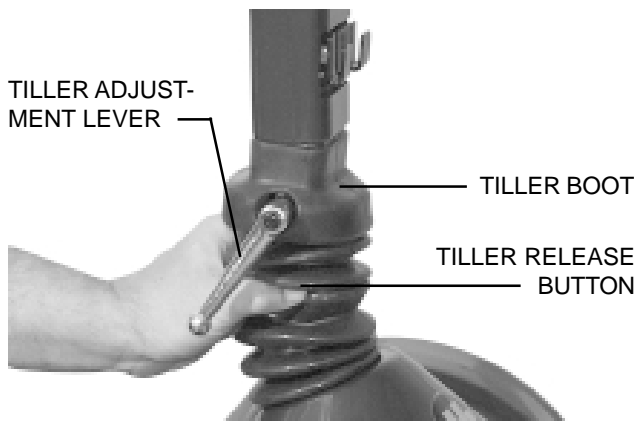

FIGURE 10. ADJUSTING THE TILLER ANGLE
1. Turn the tiller adjustment lever anticlockwise until it is loose. If the tiller adjustment lever comes in contact with the tiller basket, pull it outward, turn it clockwise, and release it. Continue to loosen until the tiller is able to move. See figure 10.